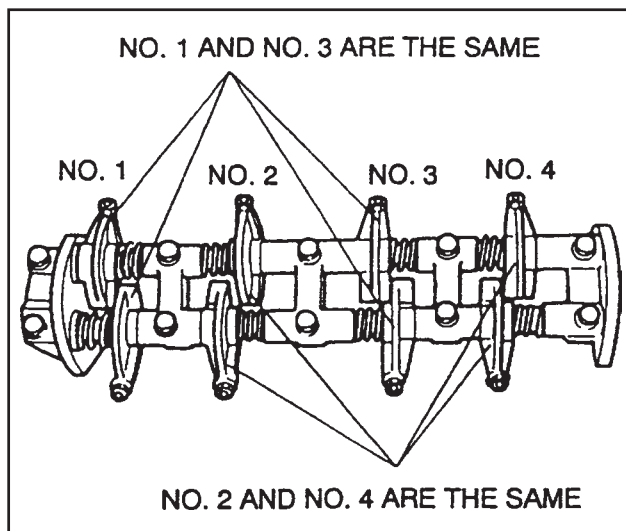

FIGURE 20. ASSEMBLE THE ROCKER SHAFT
6. Assemble the rocker shaft assembly. See FIGURE 20. Lubricate the rocker arms and shafts with engine oil. Rocker arms Nos. 1 and 3 are the same and Nos. 2 and 4 are the same. Put the capscrews in the rocker shaft supports, then install the assembly on the cylinder head.